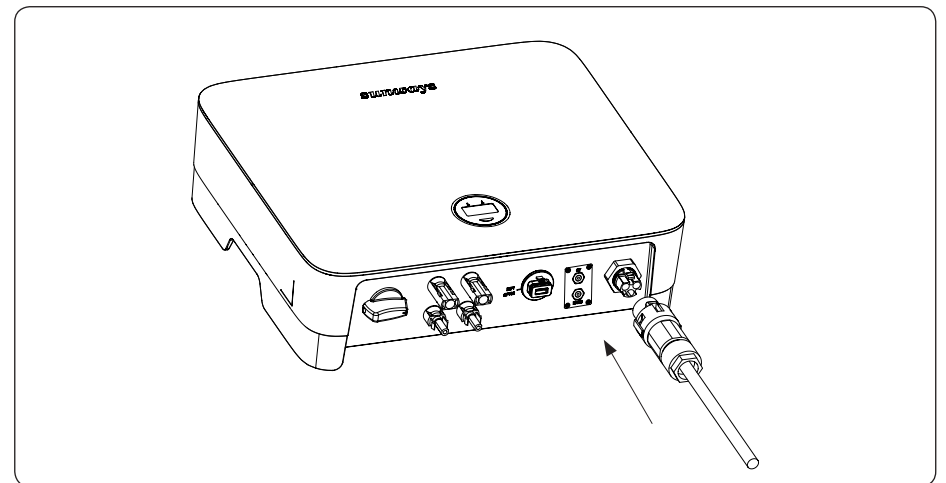

Figure 4-18 Connect the AC connector
5) Connect the AC connector to the inverter AC terminal, and the slight click shows that the connection is in the place. As shown in figure 4-18: